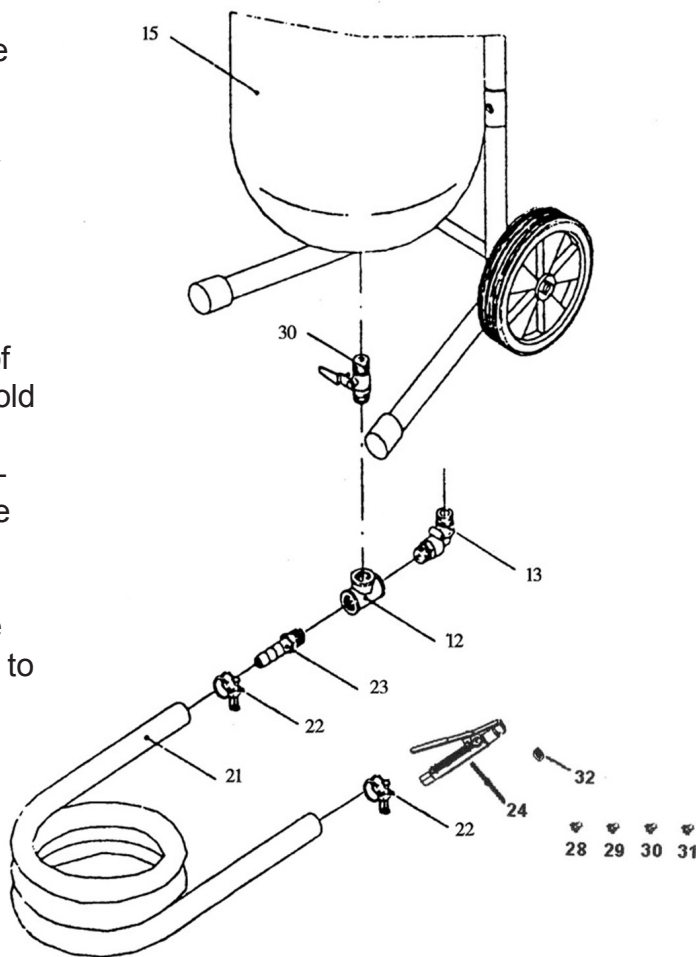

FIGURE 2
Media Metering Valve and Abrasive Gun Assembly (Refer to Fig. 2)
5. Attach the elbow connector (#13) to the remaining side port of the intake manifold (#12). Make sure the other end of the elbow connector points to the other elbow connector in the bottom assembly (#13 from figure 2).